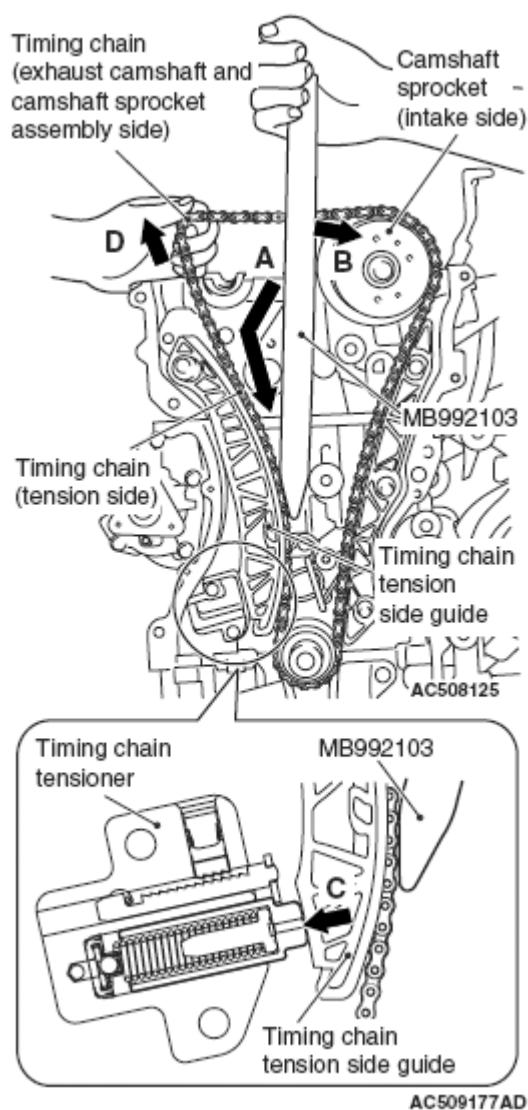

Fig. 54: Pulling Camshaft And Camshaft Sprocket Assembly
3. With the timing chain tensioner unlocked, insert special tool MB992103 inside the timing chain case assembly along the tension side of the timing chain until the insertion guide line aligns with the upper surface of the timing chain case assembly (**Fig. 54**).
4. With the special tool MB992103 inserted up to the insertion guide line, press the special tool MB992103 against the intake side camshaft sprocket (**Fig. 54**) and spread and hold the timing chain tension side guide (**Fig. 54**).
6. Pull up the camshaft and camshaft sprocket assembly (exhaust side) mounting area of the timing chain (**Fig. 54**) to provide allowance for easy installation of the camshaft and camshaft sprocket assembly (exhaust side) to the timing chain.